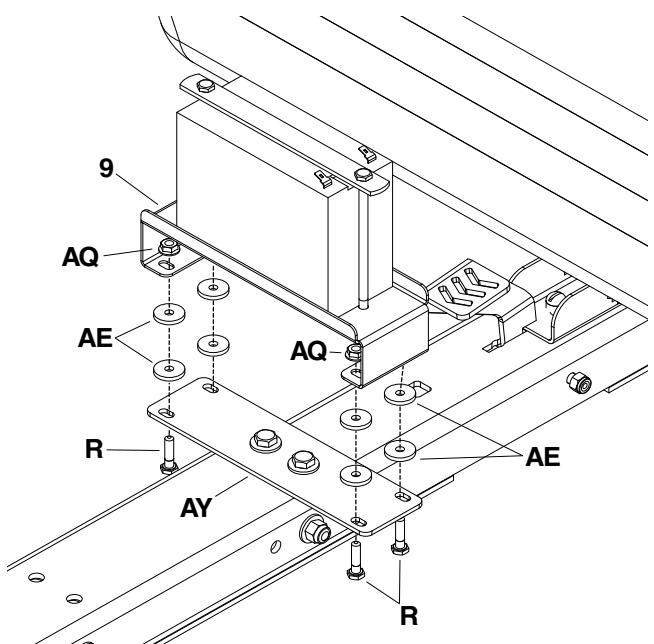

FIGURE 17
- Place two 7/8" rubber washers (AE) centered over each of the 4 holes on the battery box bracket strap (AY).
- Place the battery box bracket (9) on top of the 7/8" rubber washers (AE).
- Install a 1/4" x 1" bolt (R) through each hole from the bottom of the battery box bracket strap (AY) through the 7/8" rubber washers (AE) and the battery box bracket (9).
- Secure each bolt (R) with a 1/4" lock nut (AQ). Tighten hardware. See figure 17.